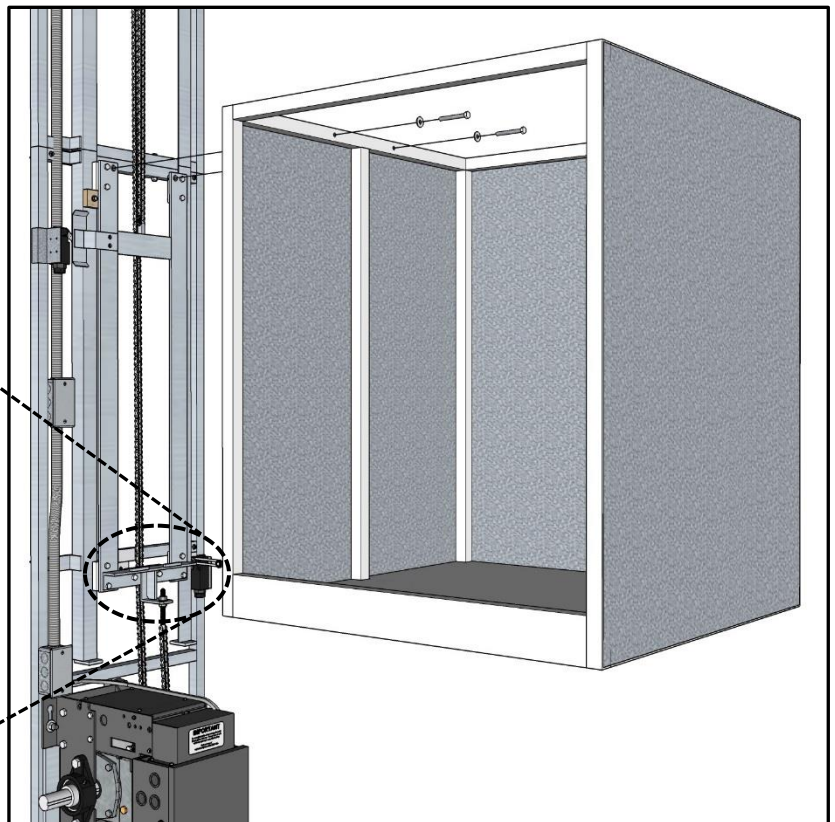

Figure 31
- 2** Use provided bolts ($\frac{1}{4}$ "-20 x $1\frac{3}{4}$ ") & washers to secure dumbwaiter car to trolley. (see Figure 31)